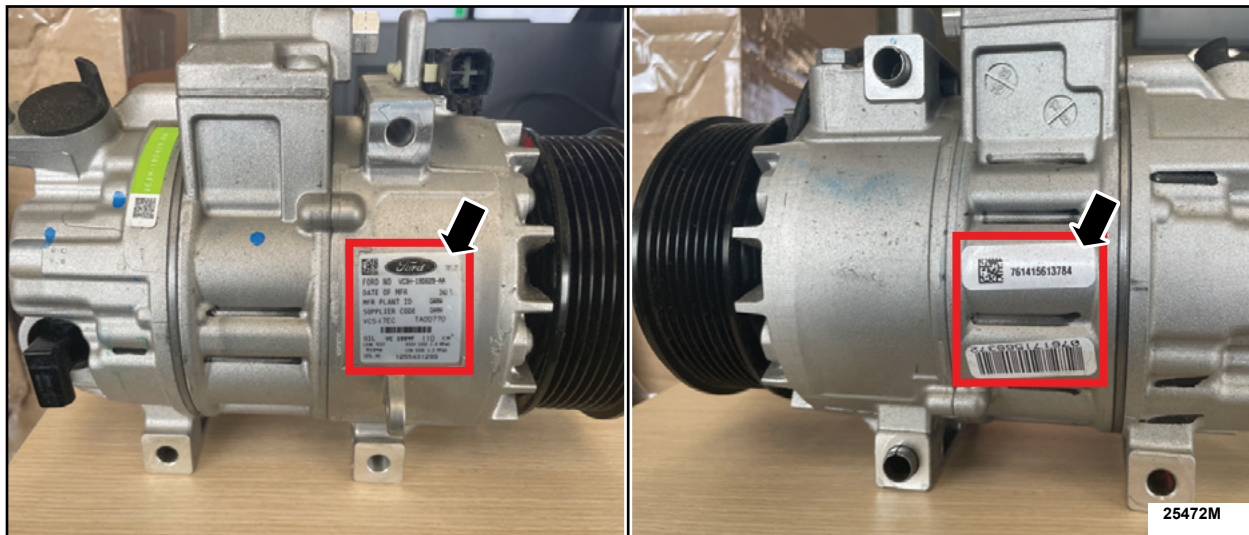

FIGURE 16
2. Take a picture of the 3 tags on the original A/C compressor and submit them with the FSA claim. See Figure 16.